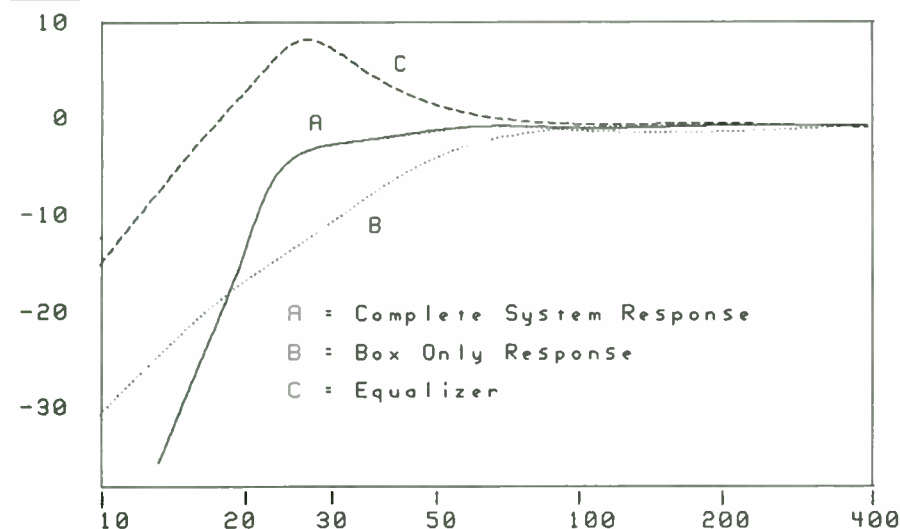
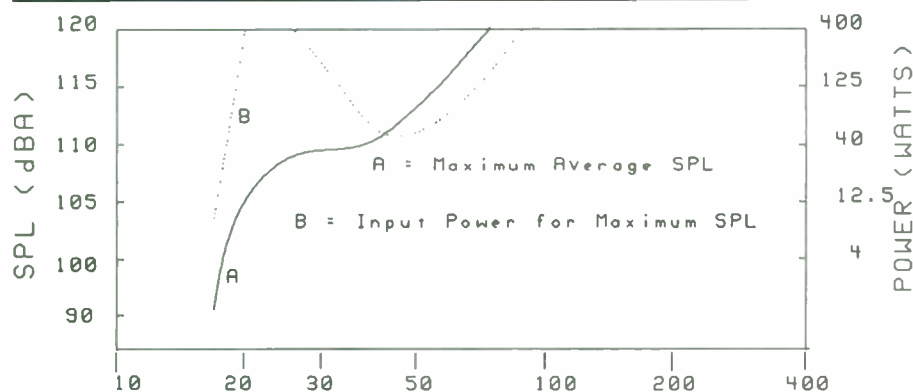

FIGURE 11: Bass speaker frequency response.
FIGURE 12: Power response, single bass module.
shown in Fig. 11. Power response, in Fig. 12, shows a maximum average SPL capability of at least 110dB, all the way down to 25Hz when working into a hemispherical space. Most home listening rooms actually will provide additional boost, by appearing to the speaker more like a quarter space than a hemisphere.
quency to reach the plotted SPL is also given in Fig. 12. Throughout most of its operating range, the bass speaker output is limited by the voice coil thermal power rating of 400W (200W per driver). The dip in the maximum allowable input power between 32 and 64Hz, however, indicates in that frequency range the output is throw-limited rather than power-limited. The system also is throw-limited below the box resonance of 22Hz where the cone unloads rapidly. Cone motion is limited in this region by the equalizer infrasonic electrical roll off of 12dB/octave. Two bass modules will produce 3-6dB more output; you can reach 110dB with an amplifier capable of delivering 200W per channel into 4Ω.
**ACTIVE CROSSOVER.** We use the Pedal Coupler to biampify the satellite and bass speakers and provide the necessary equalizer filter for the SWAN IV system. A first-order crossover, it uses a subtractive circuit topology to guarantee "transient-perfect" melding of satellite and bass speaker acoustic responses without critical component matching. The crossover also includes the second-order equalizer required to complete the sixth-order bass reflex alignment chosen for the bass module. As shown in Fig. 12, this equalizer provides 9dB boost at 25Hz. Frequencies below this point are rolled off at 12dB/octave to prevent excessive cone motion at infrasonic frequencies.